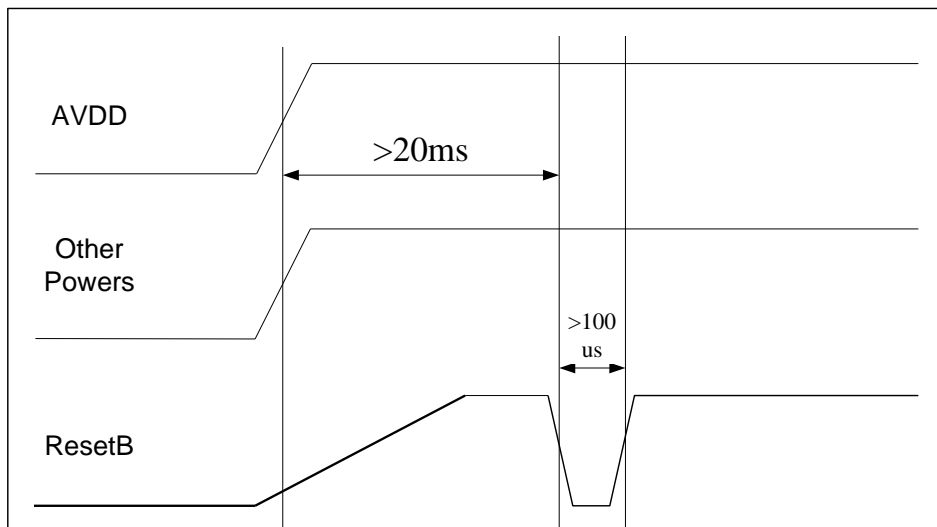

Figure 3: Power-on Reset Function's Sequence external global reset
2. ResetB signal is generate by system global reset. In this case, the power supply should be valid and stable for at least 20ms before the reset signal is valid. The pulse width of valid reset signal should be at least 100us. Otherwise, the chip can't work well. The timing is shown in **Figure 3**.